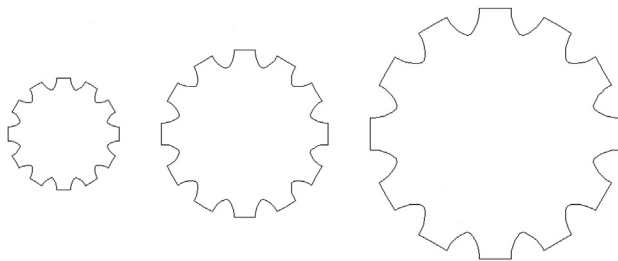

FIGURE 24.30
- Step 2.** Now copy the profile for a total of three items. Make each new copy 1.5 times larger than the previous one using scale, as seen in Figure 24.30.